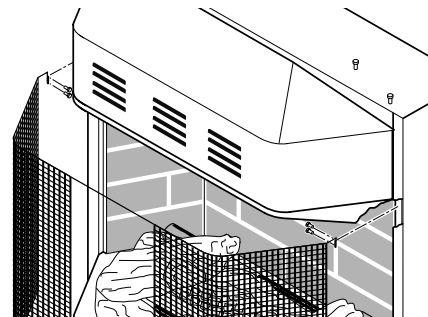
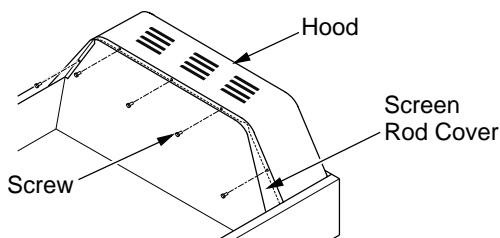
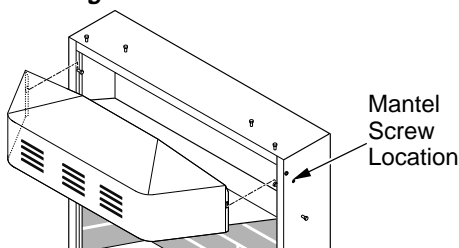

Figure 10 - Removing Screen
Figure 11 - Removing Hood Screws
Figure 12 - Removing Hood
2. Remove screen from fireplace by removing screws in each end of screen rod (see Figure 10). Hold screen rod cover while removing five hex head screws underneath hood (see Figure 11, page 10). Carefully lift and pull out hood (see Figure 12, page 10).
- Attach remaining two 3" wood screws from hardware pack through openings inside of fireplace sides into the mantel. See Figure 12, for screw hole location.